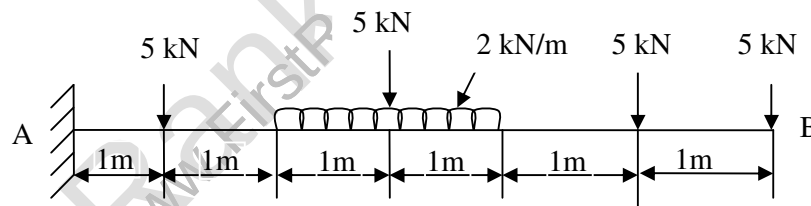

Figure 6
- b) Draw S.F.D and B.M.D for the cantilever beam shown in Figure 6.